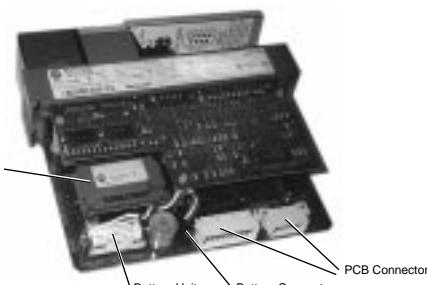

figure DM 205 - Sideview of the SLC 5/04 circuit board
4. Unplug the battery connector (See figure DM 205 for connector location).